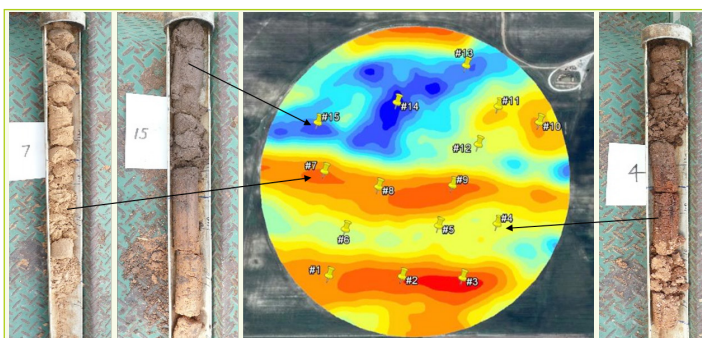

Figure 3. EM38 map (centre) and soils samples from different zones (left and right) for a carrot field in SA. Source: PIRSA
- Combined with strategic soil sampling, EM38 maps can be used to understand soil type differences and subsoil constraints (e.g. sodicity and salinity) (Figure 3).